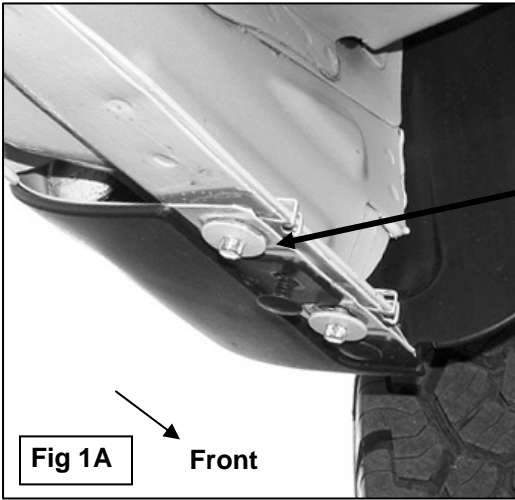

Fig 1A
2. Starting at the front of the driver side of the vehicle, remove the two small hex bolts and the metal clips holding the bottom of the fender to the body, **(Figure 1A)**. **NOTE:** Use a small flat